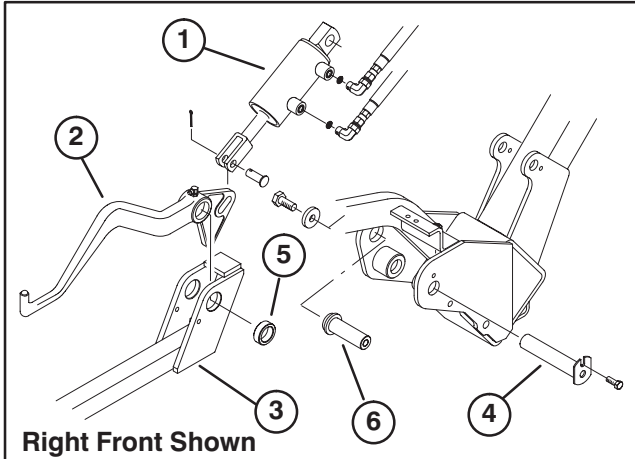

Figure 10
12. Secure each front lift arm and carrier frame to traction unit frame with a capscrew, pivot pin and spacer previously removed (Fig. 10).
13. Secure front hydraulic lift cylinders to lift arms with cotter pins and clevis pins previously removed (Fig. 10).
15. Mount an extension stud to traction unit frame (above each front lift arm and carrier frame) with a 1/2–13 x 1” lg. capscrew and washer, as shown in figure 10.